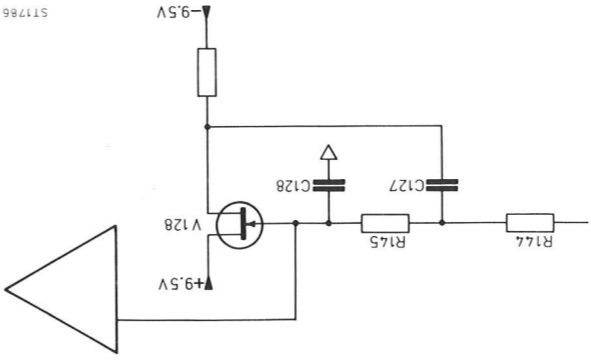

Fig. 25. Fast acting filter
7.1.2.3. Filter inputs to comparator (Fig. 25, page 59)